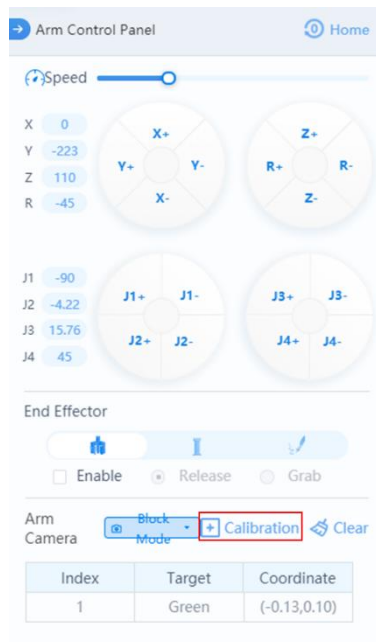
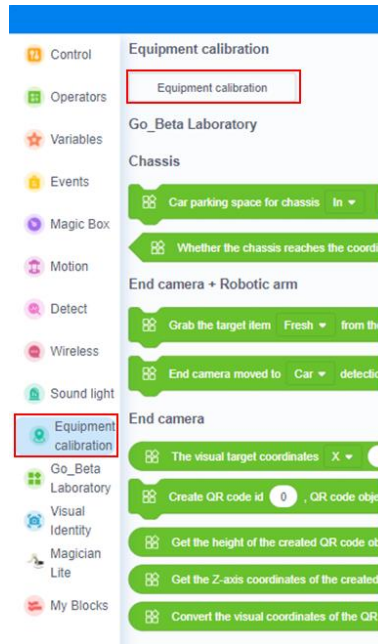

Figure 4.30 Click Calibration
Figure 4.31 Equipment calibration block
**Step 2** Click **Calibration** on the arm control panel of Python Lab, as shown in Figure 4.30. Or click **Calibration** in the Calibration block of DobotBlock Lab, as shown in Figure 4.31.